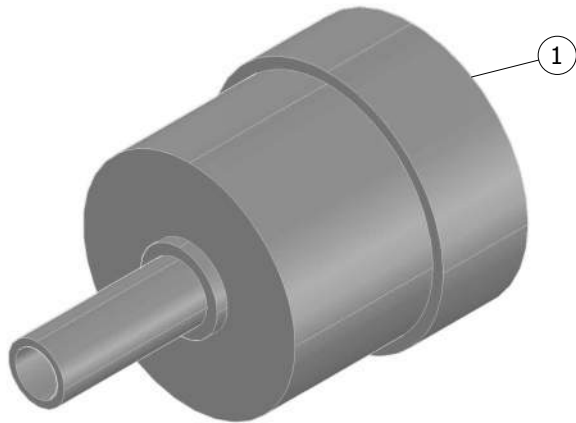
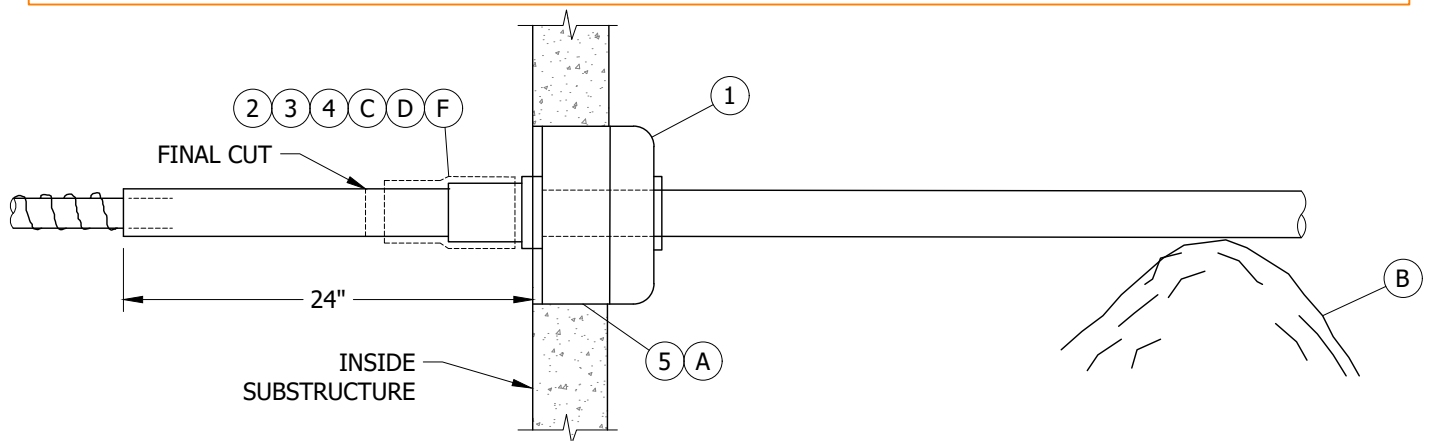

FIGURE 1
FIGURE 3
- (A) USE SOLVENT CEMENT TO CEMENT THE ADAPTOR INTO THE PREFERRED TERMINATOR KNOCKOUT.
- (B) MAKE SURE THE CONDUIT ENTERS THE ADAPTOR STRAIGHT. THIS REQUIRES A MOUND OF DIRT APPROXIMATELY ONE OR TWO FEET OUTSIDE THE SUBSTRUCTURE (SEE FIGURE 3). LEAVE 24 INCHES OF THE CONDUIT EXPOSED BEYOND THE SUBSTRUCTURE TERMINATOR INSIDE THE SUBSTRUCTURE. THIS WILL ALLOW MOVEMENT OF THE CONDUIT UNTIL THE TRENCH IS BACKFILLED.
- (C) AFTER THE TRENCH IS BACKFILLED, THE CONNECTION CREW SHALL INSTALL EITHER THE HEAT SHRINK SLEEVE OR TAPE WHERE THE CONDUIT AND ADAPTOR JOIN. NEXT MAKE THE FINAL CUT ON THE CONDUIT JUST BEYOND THE HEAT SHRINK SLEEVE OR TAPE AND DISREGARD THE EXCESS CONDUIT.
- (D) ON SINGLE ENTRANCE ADAPTORS (STYLE A ON FIGURE 1), APPLY ONE LAYER OF AQUA-SEAL AND TWO LAYERS OF GRAY TAPE AT THE POINT WHERE THE CONDUIT ENTERS THE ADAPTOR INSIDE THE SUBSTRUCTURE.
- (E) ONE ENTRANCE OF THE TRIPLE ENTRANCE ADAPTOR IS CAPPED SO IT MAY BE USED AS A TWO-WAY ADAPTOR. THE CAP MAY BE CUT OFF IF THE THIRD CONDUIT ENTRANCE IS NEEDED.